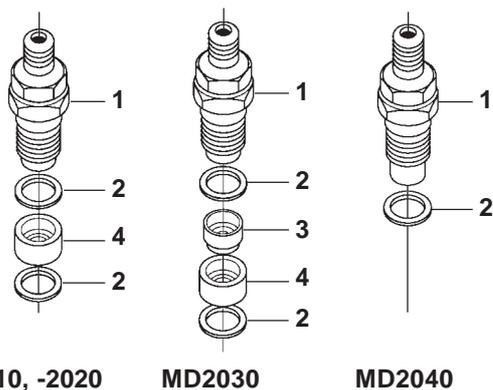

Fig. 34. Fitting of injectors
11. Fit the copper gaskets, heat shields (MD2030) and inserts (MD2010–MD2030) to the injectors as per Fig. 34.